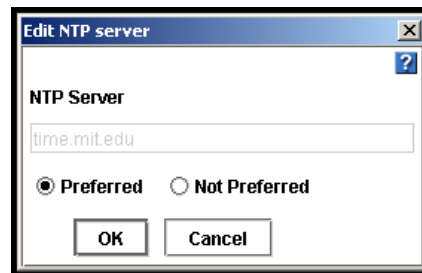

Figure 95. Editing an NTP Server
- Click Edit. The Edit NTP Server window opens, shown in Figure 95.